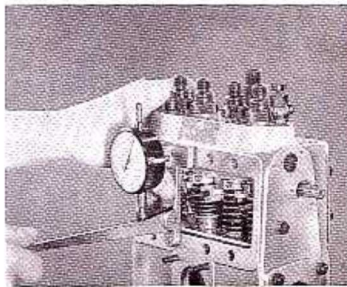

FIG. 18. CHECKING HEAD CLEARANCE USING GAUGE 7144/166
3. Using gauge 7144/166 check the plunger head clearance of No. 1 element and if necessary adjust this by varying the thickness of the shims (Fig. 18).